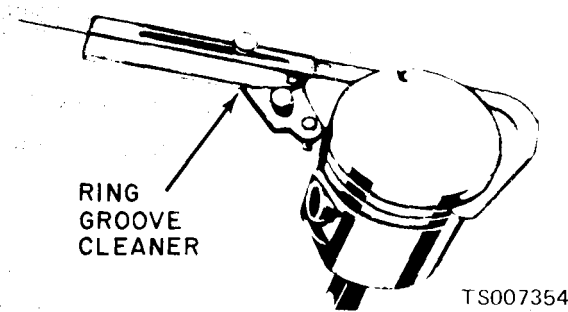

Figure 6-25. Cleaning Ring Grooves.
(2) Clean the ring groove with a ring groove cleaner (see figure 6-25). Make sure the oil ring slots are clean.